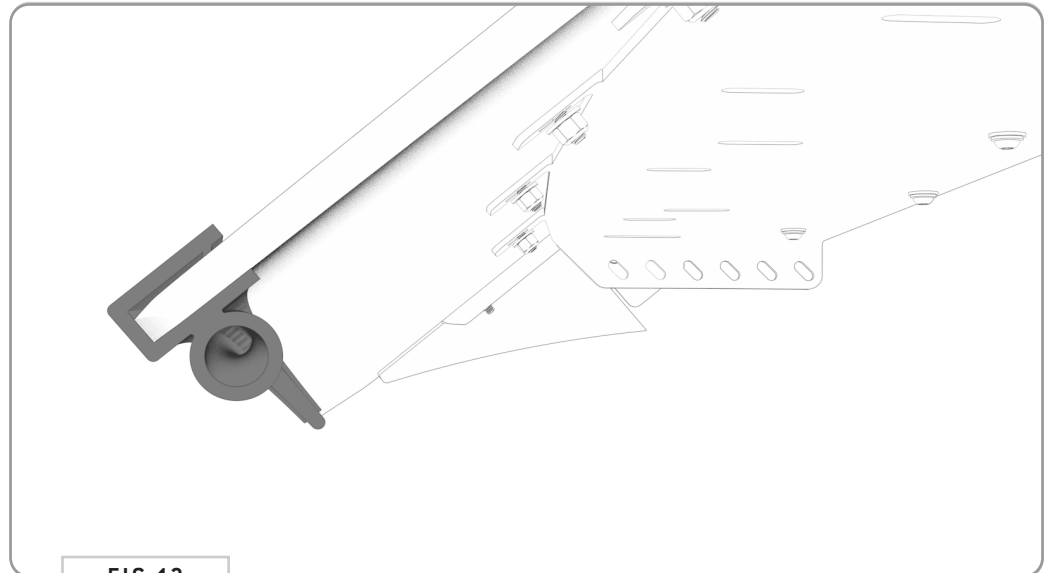

FIG 13
**4.4 Fairing Gasket Trim:** Attach the **Fairing Gasket Trim** to the **Front Fairing** in the orientation shown in **FIG 13**. Make sure the “bulbed” side is facing inward.